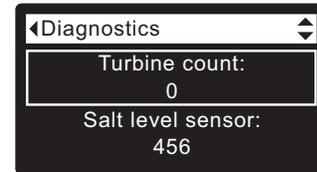

FIG. 109
2. Press the DOWN (▼) button to scroll through the list until **Turbine Count** is displayed (See Figure 109).